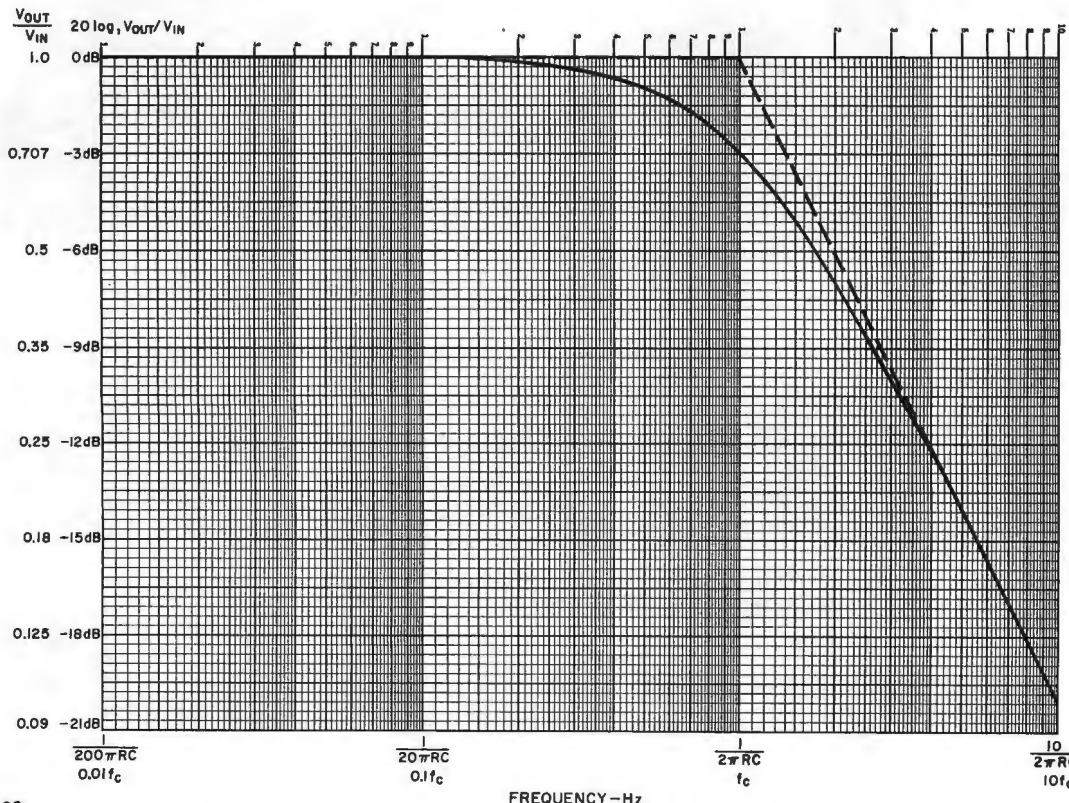
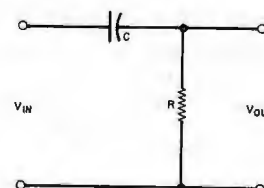

Fig. 3. Universal frequency-response curve for an RC low-pass filter.
Fig. 4. A simple  $RC$  high-pass filter.
$f_C = 1/(2\pi RC)$  or  $1/(2\pi T)$ , where  $T$  is the  $RC$  time constant in seconds. This frequency occupies an important point on the  $RC$  low-pass filter frequency response curve shown in Fig. 3. In this graph, the vertical axis represents the fraction of the input voltage appearing at the output of Fig. 1. Also given on the vertical axis is the decibel relationship between  $V_{IN}$  and  $V_{OUT}$ . The horizontal axis is the signal frequency on a logarithmic scale. This is done so that the falling response characteristic quickly approaches a straight line with a constant slope. The slope for the simple
A cut-off frequency of 8000 Hz is a fairly good choice. This corresponds to an  $RC$  time constant of 20 microseconds. Any reasonable combination of a resistor and capacitor that will give this result is satisfactory. For example, an  $R$  of 20,000 ohms and a  $C$  of 0.01 microfarads will yield the desired response. By using the universal curve shown in Fig. 3, with  $1/(2\pi RC)$  equal to 8000 Hz, you can observe how the high-frequency material will be filtered out.
**High-Pass Rumble Filter.** So far, we've considered low-pass filters which pass, unhindered, signals below  $f_C$ , and increasingly attenuate signals above  $f_C$  as the frequencies rise. However, we can make a *high-pass* filter which behaves in exactly the opposite manner by interchanging the positions of  $R$  and  $C$  as shown in Fig. 4. It has a frequency response that is a mirror image or converse of Fig. 3. Accordingly, all frequencies above the cut-off frequency—still